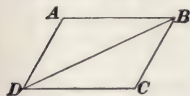

FIG. 32.
**61.** If in any parallelogram a straight line, called the **diagonal**, be drawn, connecting two opposite corners, it will divide the parallelogram into two equal triangles, as  $ADB$  and  $DBC$  in Fig. 32. The area of each triangle will equal one-half the area of the parallelogram, i. e., one-half the product of the base and the altitude. Hence, to find the area of any triangle: